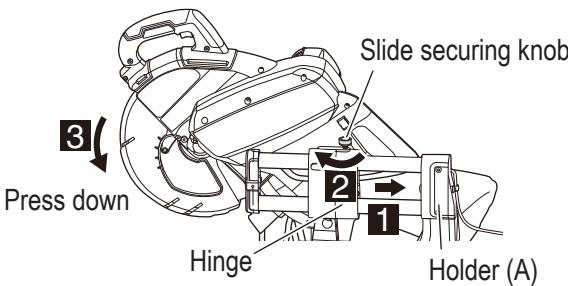

Fig. 22
5. Cutting narrow workpieces (Press cutting) (Fig. 22)